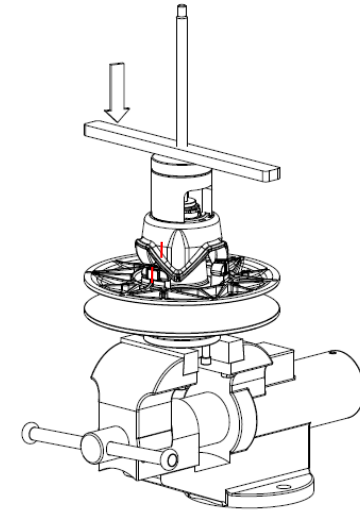
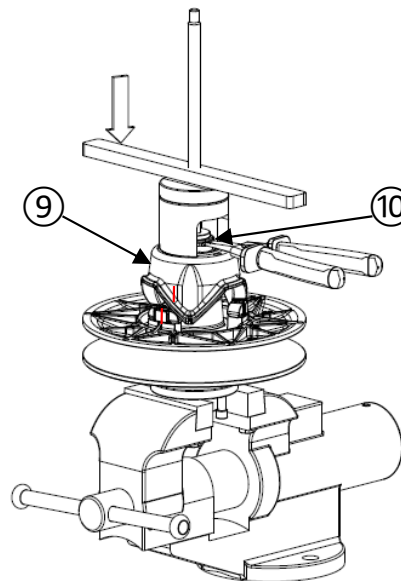

Figure 20
Figure 21
- Install the pulley on the disassembly tool as shown in figure 20.
- By screwing the bar on the threaded rod, press down the cam ⑨ (3 to 4 mm max.) in order to release the retaining ring ⑩.
- Remove the retaining ring ⑩ using the snap ring pliers (figure 21).